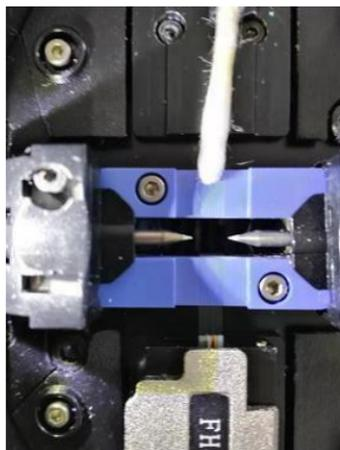

Figure 5.2 V groove cleaning II
2. Use a cotton swab soaked with alcohol to clean the surface and bottom of the V groove. At last, the alcohol should be the natural air-dry or wiped dry by the dry cotton swab. Shown in figure 5.2.